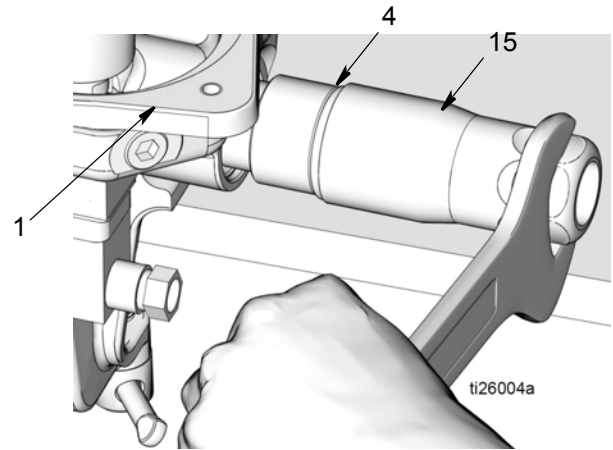

FIG. 23
- e. Discard o-rings (7, 41) and nut (5) according to all regulations for proper disposal
16. Remove the outlet check valve (15) from the pump base (1) (FIG. 23). Remove o-ring (4) from outlet check valve. Dispose of o-ring according to all regulations for proper disposal.